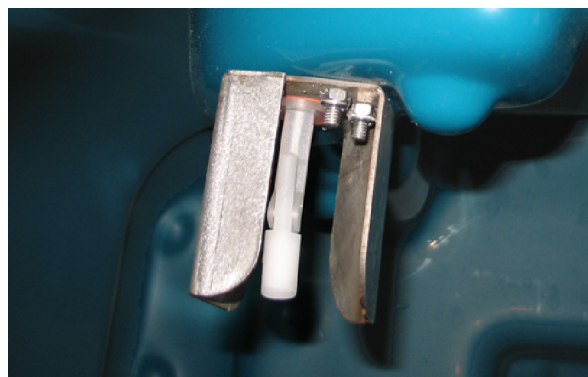
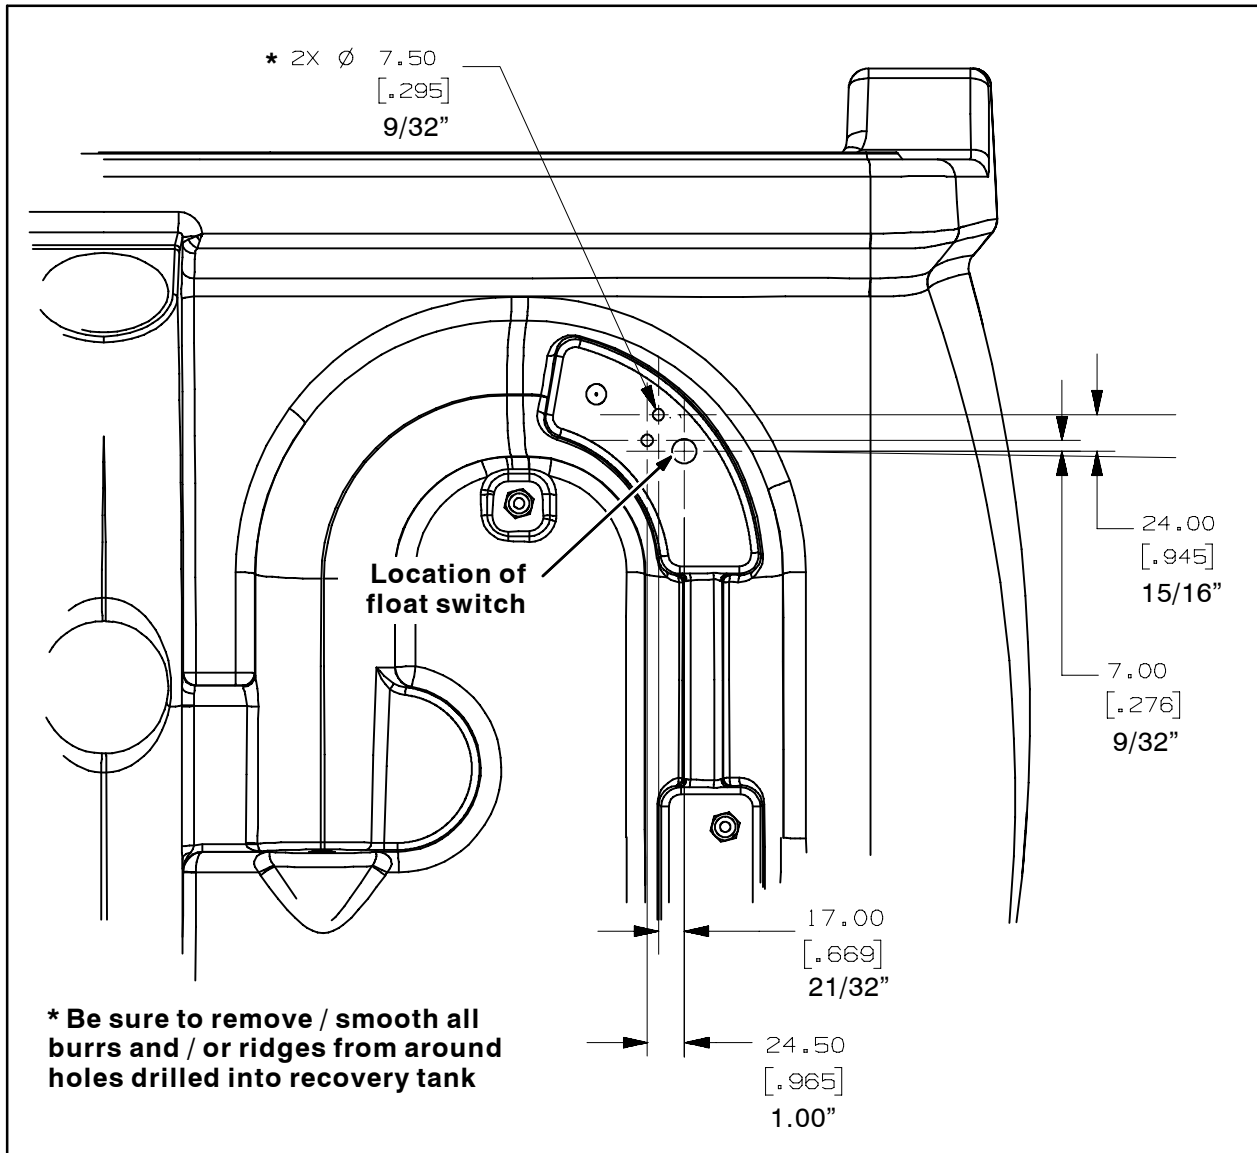

FIG. 2
FIG. 6
4. Hold the new float switch guard (1) onto the the float switch as shown in Fig. 2 and drill two holes through the holes in the float switch guard and through the recovery tank. Refer to Fig. 2 for the location of the float switch guard and Fig. 6 for sizes/locations of holes.
5. Remove/smooth all burrs and/or ridges from around the two holes drilled into the recovery tank. Refer to Fig. 6.